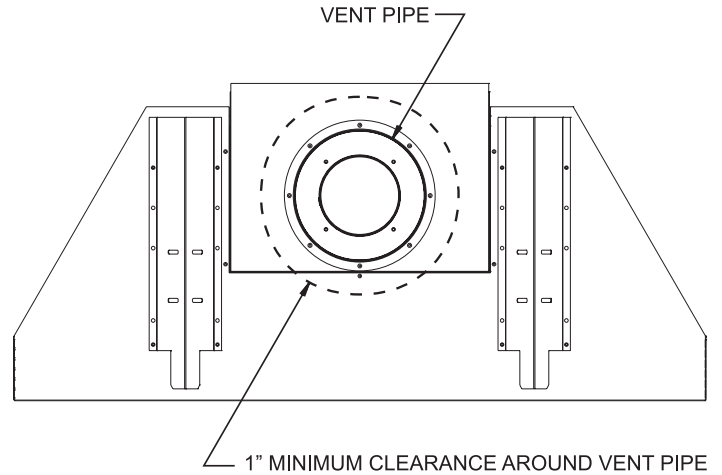

Figure 11
**NOTICE:** Maintain one inch of clearance around vertical vent pipe. **See Figure 11.** For horizontal vent, maintain a minimum 1" clearance to the bottom and sides of the vent, and 3" clearance to combustibles above the vent pipe. **See Figure 12.**